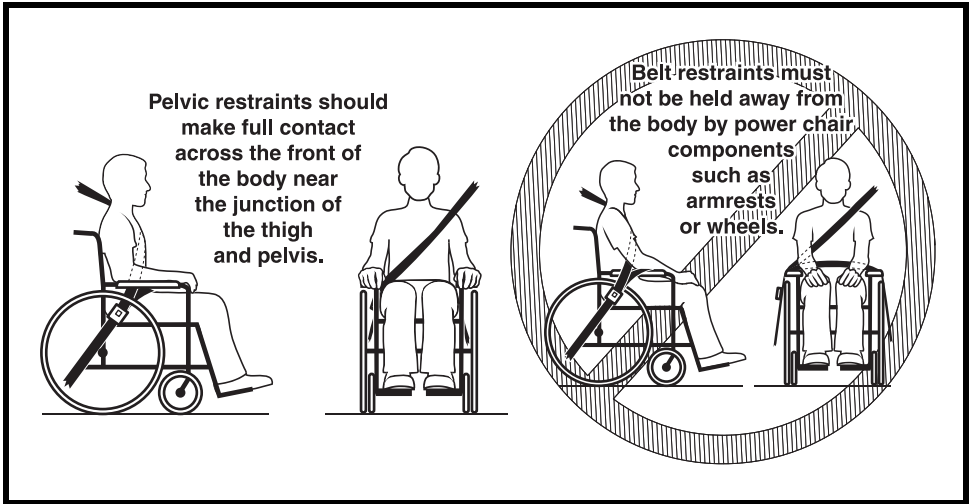

Figure 8. Proper Pelvic Belt Placement
- Some power chair components, like armrests and wheels, can interfere with proper belt fit. It may be necessary to insert the belt between the armrest and the seatback or through openings between the backrest and seat in order to avoid placing the pelvic belt over the armrest. **See figure 8.**